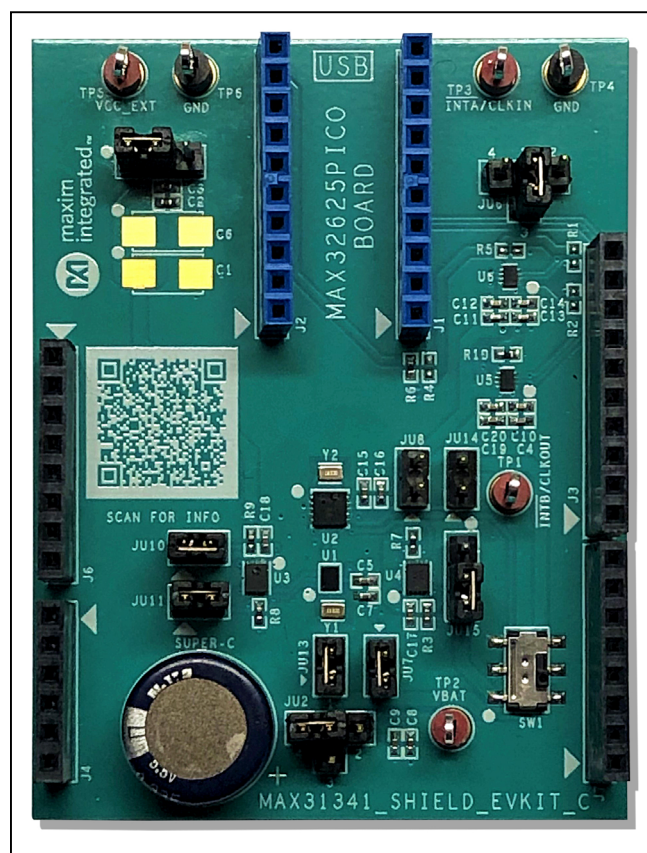
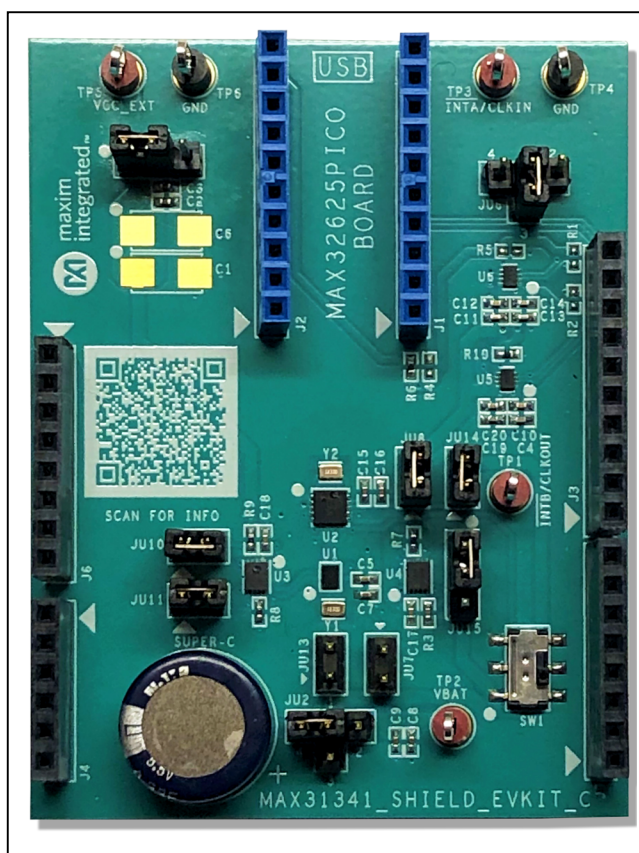

Figure 1a. WLP_Jumper Setting
Figure 1b. TDFN_Jumper Setting
- 2) Set the jumpers to their default positions, as shown in Figure 1a for testing the WLP IC and Figure 1b for testing the TDFN IC.